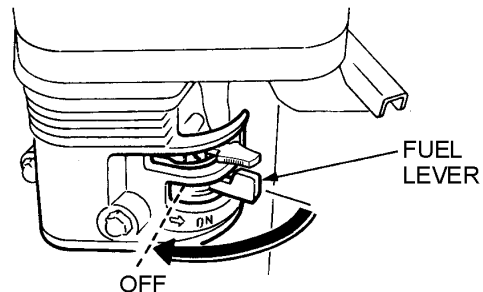

Figure 22. Fuel Valve Lever (OFF)
3. Place the fuel shut-off lever (Figure 22) in the **"OFF"** position.